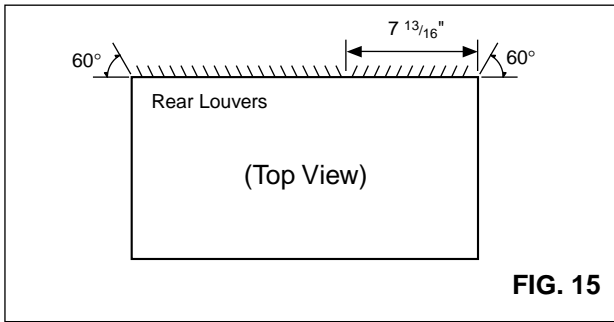

FIG. 15
1. Redirect the louvers at the back of the wall sleeve to 60° angle as shown in the FIG 15. The use of pliers is recommended.